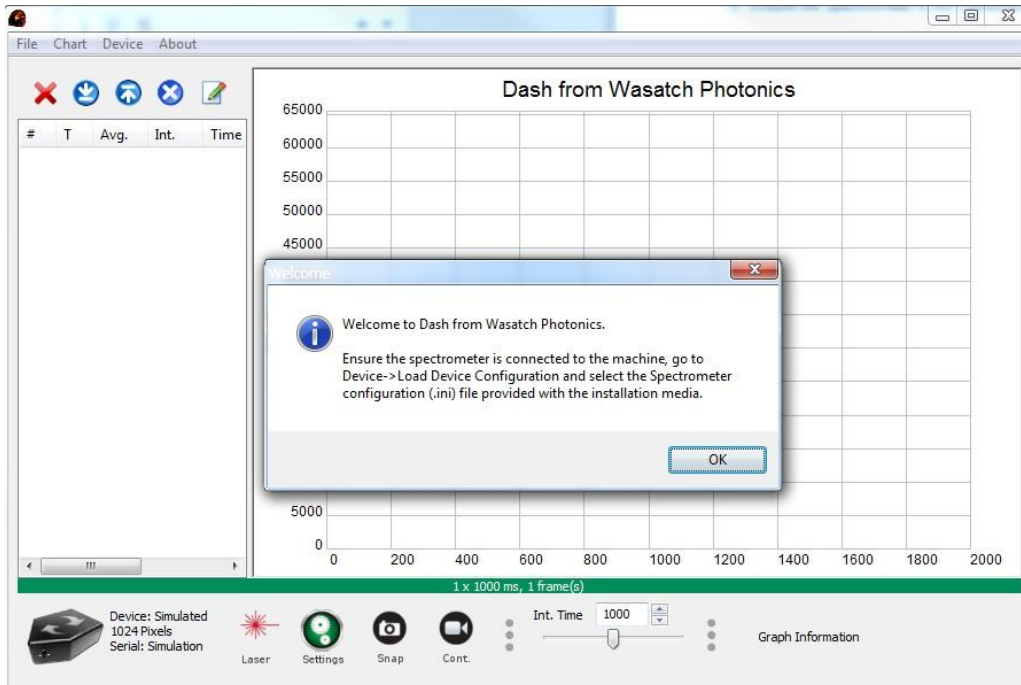

Figure 5 Dash startup message
- 3) Click finish to launch the Dash application, and you should see a message like that shown below in figure 5: